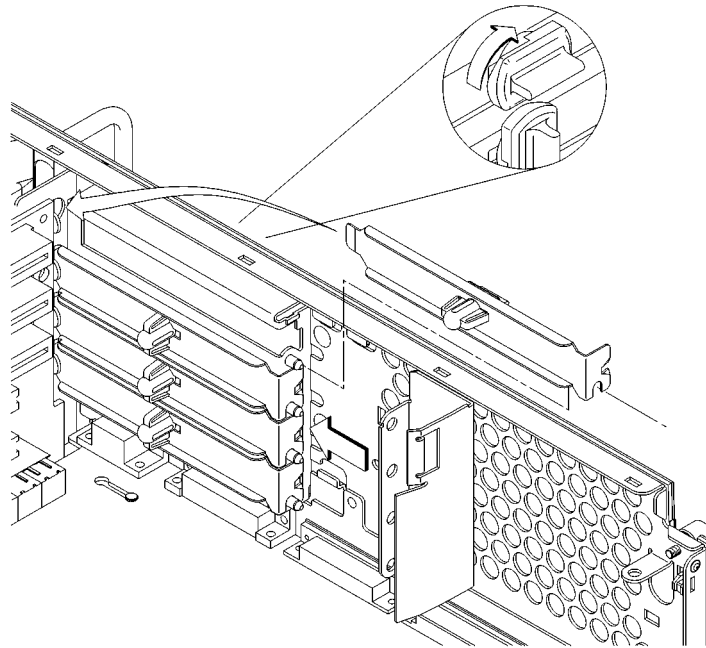

Figure 47 **Installing an EISA Slot Blank Plate**
- 1 Install a blank plate in the rear panel, as shown in Figure 47
- 2 Install the EISA retainer, as shown in Figure 47.
- 3 On the blank plate, turn the locking knob clockwise to secure blank plate, as shown in Figure 47.